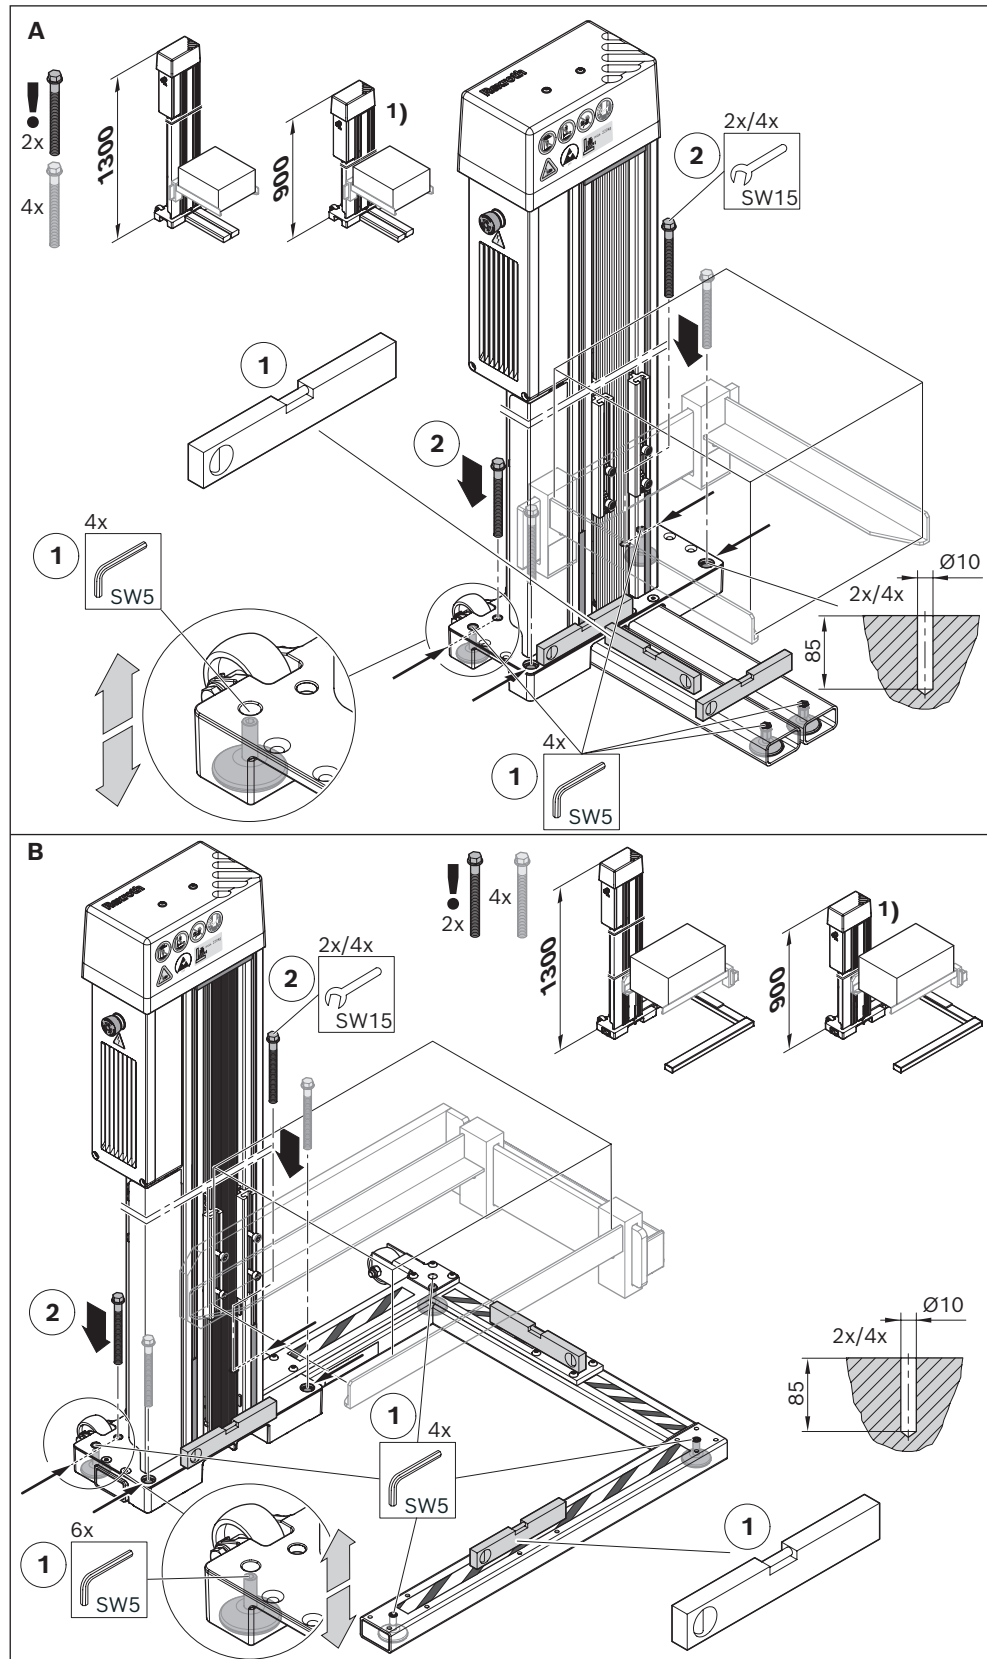

Fig. 15: Base plate fittings (example A with straight bracket; example B with side bracket)
2. Secure the case lifter against tipping over ¹⁾ ²⁾ ⁴⁾ by leveling unevenness with the aid of the adjustable device feet (see Fig. 15 and Fig. 16).
- Floor unevenness can be compensated for by adjusting the device feet with the aid of a hexagonal socket wrench (SW5) (1) until the case lifter is horizontal.
- The case lifter must be screwed to the base plate with the concrete screws supplied (2) (see Table 7).
► If the brackets are assembled on the case lifter, please note the following when screwing them to the base plate (Fig. 15, Fig. 16):